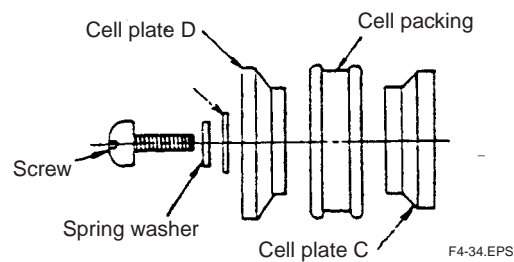

Figure 4.34
7. Place cell plate C, cell packing, and cell plate D as in 12, and tighten screw 2 or 3 turns. (Figure 4.34)